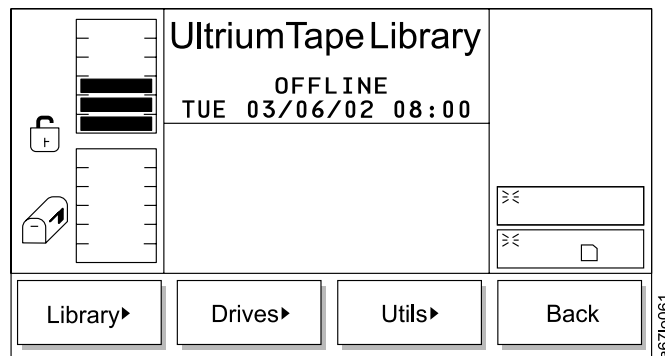

Figure 139. Setup Menu
Use the Setup Menu to configure the library. Select **Setup** from the Main Menu's alternate screen by pressing the button below the **Setup** softkey (see Figure 77 on page 89). The Setup Menu displays (see Figure 139).
- If **Back** is selected, the Setup Menu displays (see Figure 139 on page 121).